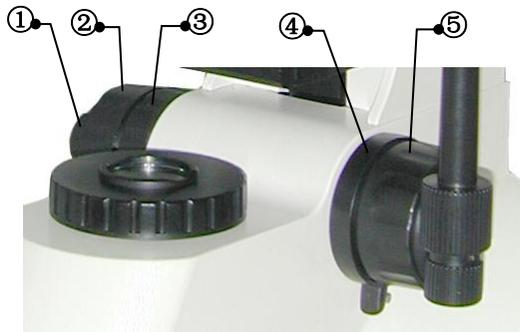

Fig.9
**a. Focusing:** Coarse adjustment knobs ② / ⑤ are located on each side of the frame, can accomplish coarse adjusting. Fine adjustment knobs ① is located on each side of coarse adjustment knobs and same axis to them. When Clockwise turn coarse adjustment knobs or fine adjustment knobs, make the stage raise, counterclockwise turn to make stage fall. Minimum division of fine focusing is  $2\mu\text{m}$ . See fig.9.
**b. Focus Tension Adjustment:** The tension of the coarse focus is adjustable and preset at the factory for ease of use. If you wish to adjust the coarse focus tension, first locate the tension adjustment ring ③. Turning the ring toward the front of the microscope (counterclockwise) increases the tension, and toward the rear of the microscope (Clockwise) loosens it. See fig.9.
**c. Pre-focusing or Focus Stop Control:** Use of this feature will insure that the short working distance objectives don't contact the stage or slide glass when using the microscope. Its use also simplifies focusing. After focusing on the slide glass with the coarse adjustment ② in low magnification objective, then rotate the stop control lever ④ toward the rear of the
microscope to set an upper limit on the coarse adjustment movement. After changing objectives, focusing is easily accomplished by rotating the coarse adjustment knob to reach the pre-focused position, then making fine adjustments with the fine adjustment knob ①. See fig.9.